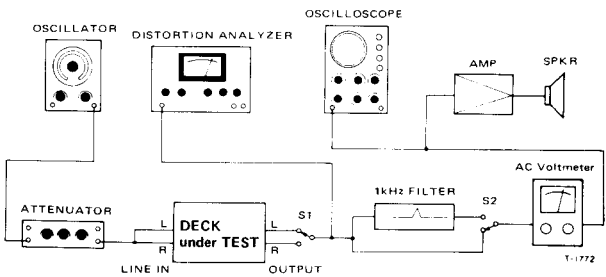

Fig. 5-1 Basic test setup
16. Erase efficiency	<ul style="list-style-type: none"> • Connection is same as in Fig. 5-1, but engage 1-kHz filter. • Record a 1-kHz signal. Rewind tape to midpoint of recorded portion. Record a "no signal" portion. Find the difference between the 1-kHz portion and the "no-signal" portion.
17. REC MUTE function	<ul style="list-style-type: none"> • Connection: Fig. 5-1, but engage 1-kHz filter. • Record a 1-kHz signal. Push REC MUTE button for several seconds. (At this time, make sure LED on the button lights). Rewind and play the tape. Find the difference between the 1-kHz portion and the "no-signal" portion.
18. Channel separation	<ul style="list-style-type: none"> • Connection Fig. 5-1, but do not connect LINE IN (R), and engage 1-kHz filter. • Set the deck to record mode. Find the difference between the 1-kHz recorded portion (L-ch) and the "no signal" portion (R-ch).
19. Adjacent track crosstalk	<ul style="list-style-type: none"> • Connection: Fig. 5-1, but do not connect LINE IN (L) and OUTPUT (L). • Record a 125-Hz signal on R-ch and note output level. Invert tape and play R-ch track. Check leakage level against the output reference of previously recorded portion.